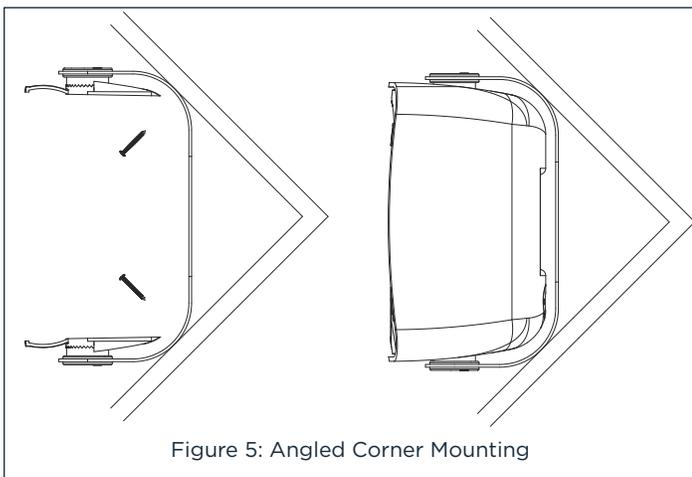

Figure 5: Angled Corner Mounting
- Attach the FastMount brackets to the mounting surface using hardware (not included) that is appropriate for the type of surface. If the installation requires that the speaker be mounted in a corner, attach the bracket with hardware through the slots in the angled corners (see Figure 5).